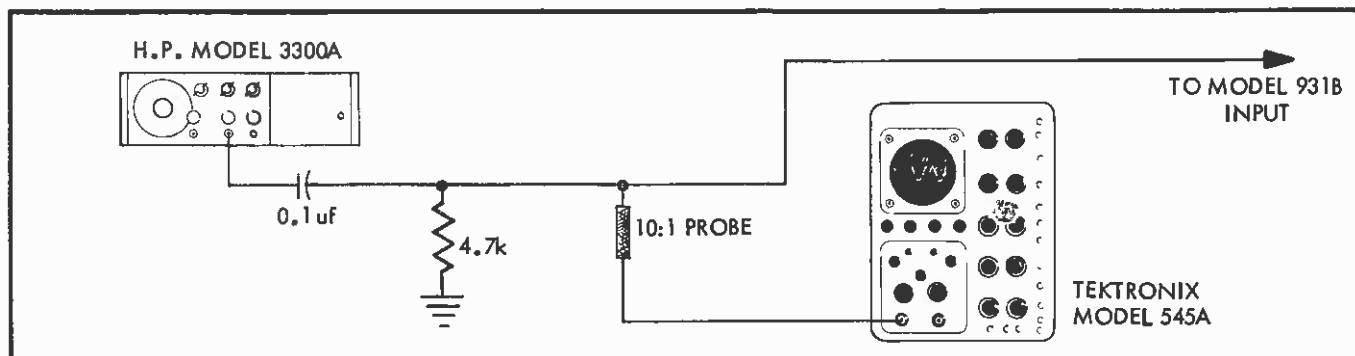

Figure 4-17. CREST FACTOR CHECK EQUIPMENT CONNECTIONS
- j. To check the amplifiers dynamic range for high crest factor waveforms, make the equipment connections illustrated in Figure 4-17 and place the RANGE switch to its 1000 MILLIVOLTS position.